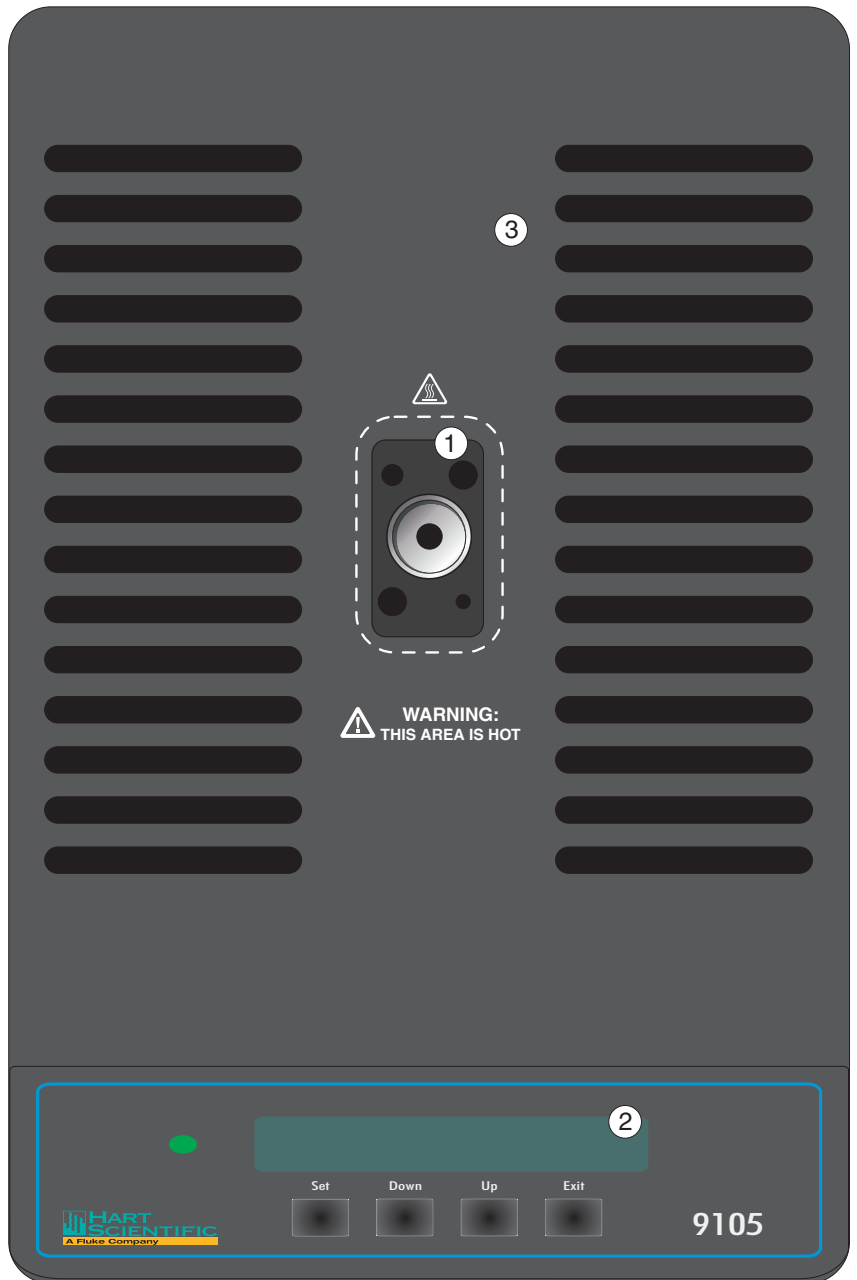

Figure 1 Top View
- **BURN HAZARD – Do Not touch the well access surface of the unit.** (Refer to Figure 1 on page 3.)
- The temperature of the well access (1) will be the same as the actual temperature shown on the display (2), e.g. if the unit is set at 600°C and the display reads 600°C, the well is at 600°C.
- The top sheet metal (3) of the dry-well may exhibit extreme temperatures for areas close to the well access.